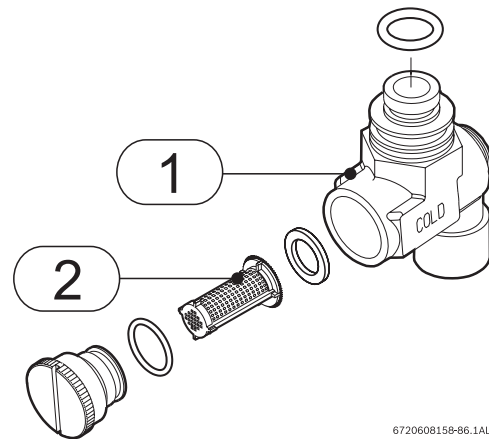

Fig. 51 Water filter
- Verify the inlet filter screen is clean and undamaged. The inlet water filter is located inside the cold water inlet fitting on the right side of the appliance (See Fig. 51, page 27). Close installer supplied cold water shutoff and loosen slotted screw on inlet fitting. Water will drain from the appliance. Remove cylindrical filter inside.